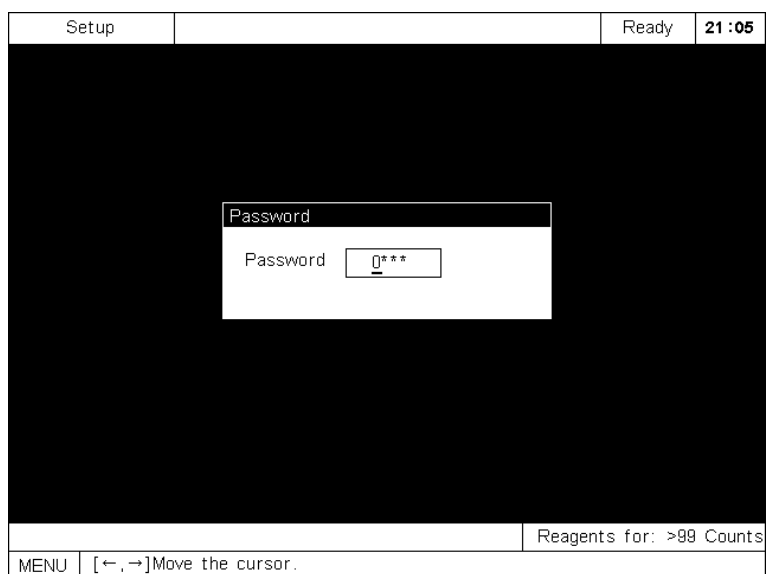

Figure 7-2 Common user password
2. Press [ENTER] to enter the **Password** screen, as Figure 7-2 shows. The displayed password is the default common-user password set automatically by this analyzer.